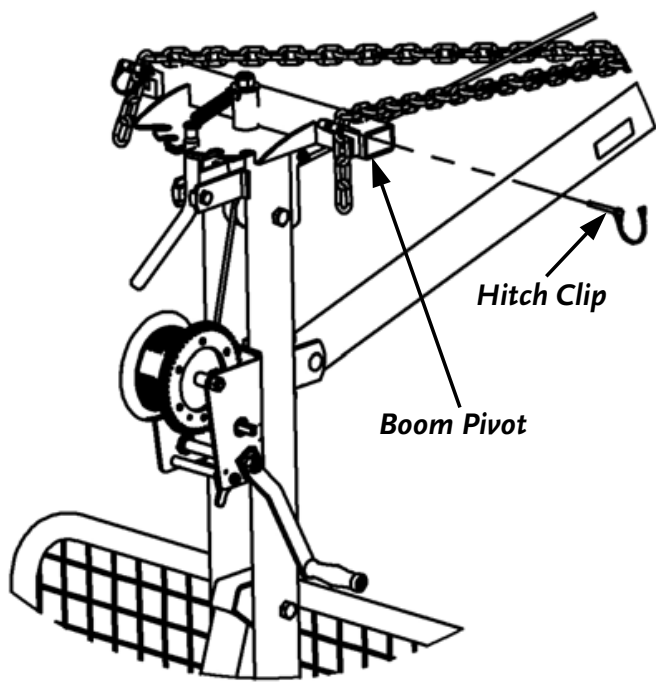

Figure 36
7. Have a second person lift the Boom then hook the fourth link of the Left and Right Chains into the Boom Pivot (**Figure 36**) and insert a Hitch Clip in the Boom Pivot on both sides to secure the Chains (**Figure 36**).